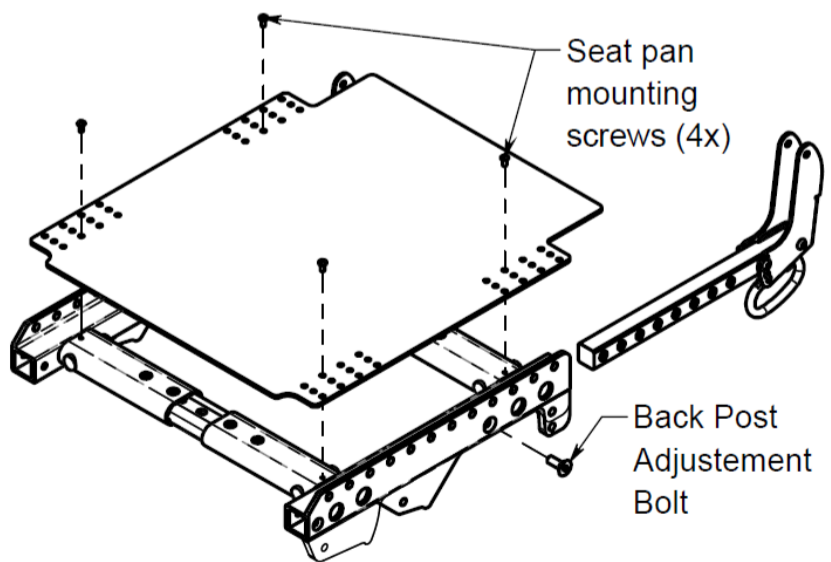

Figure 16.5: Adjusting the seat depth
1. Loosen and remove the 5/16-18 flat head fasteners on each side of the upper frame (see Figure 16.5).